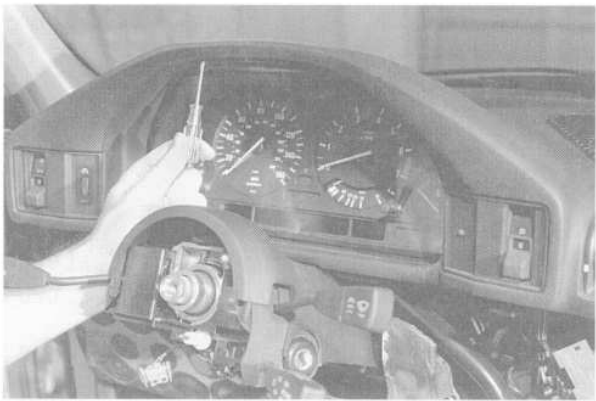

Fig. 1. Instrument cluster retaining screws being removed.
4. Remove instrument cluster retaining screws. See Fig. 1.